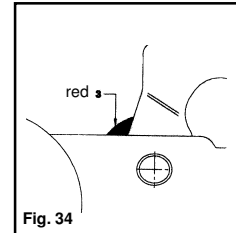

Fig. 34
- 3) If only a red indicator is visible (Fig. 34/Item 3), then this may have the following causes: